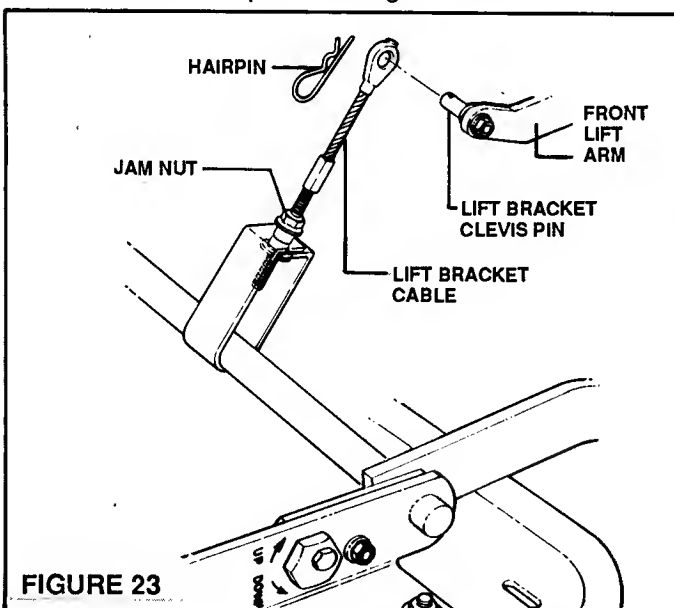

FIGURE 23
2. Remove hairpin from FRONT LIFT BRACKET CABLE clevis pin. See Figure 23.